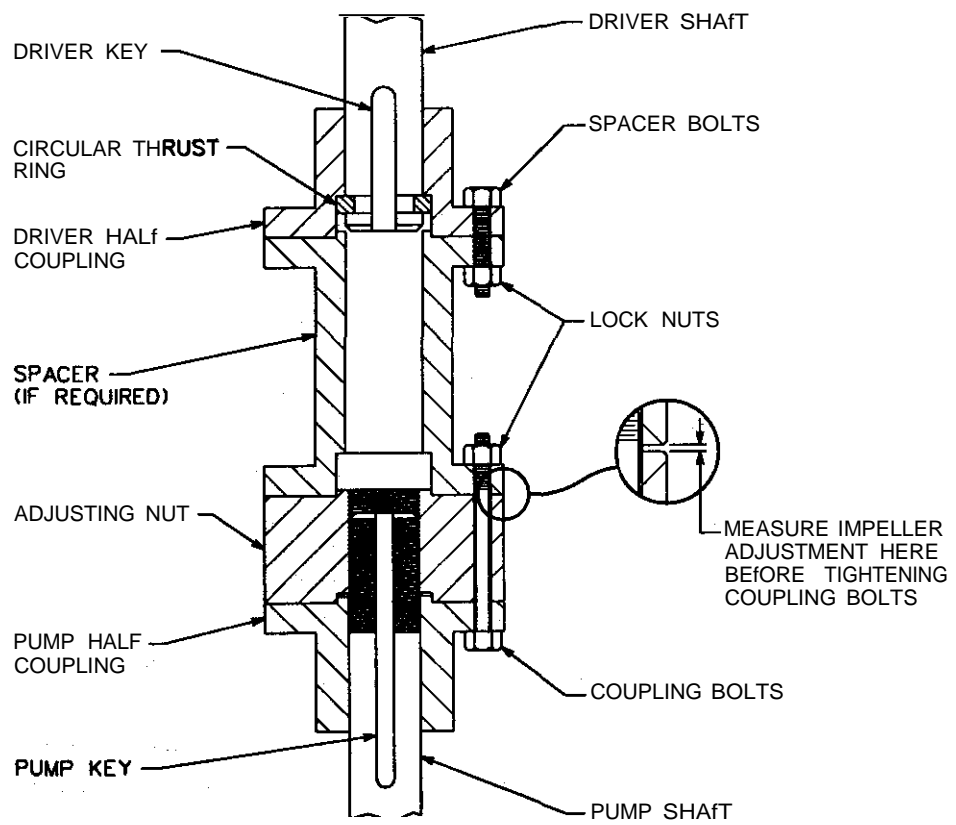

Figure 4-E
3. Thread adjusting nut down until the proper impeller adjustment as outlined in the **Impeller Adjustment – General Section** can be measured between the adjusting nut and spacer or driver half-coupling as shown in **Figure 4-E**.